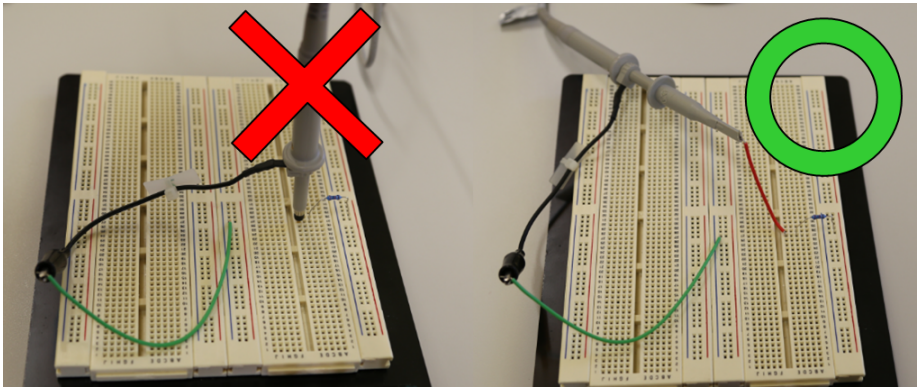

**Figure 29:** A closeup of the digital oscilloscope.
- A close-up of the main panel controls was shown in Fig. 29. Notice that the control panel is split up into different sections: Horizontal (time scaling), Run Control, Measure, Waveform, File, Trigger and Vertical (amplitude scaling).